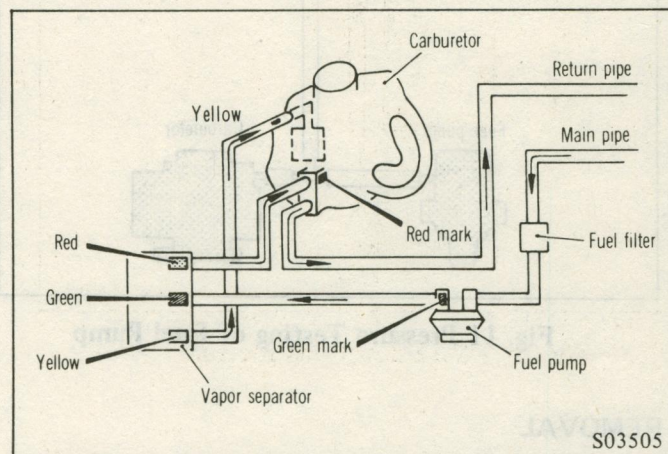

Fig. 8 Vapor Control System
(1) When installing the vapor separator, position it with the red fitting upward.
(2) Connect fuel hoses properly by referring to Fig. 8. To eliminate the possibility of wrong connection, each fitting on the fuel pump, carburetor, and vapor separator is identified by a color code. All hoses should be connected between fittings of the same color.